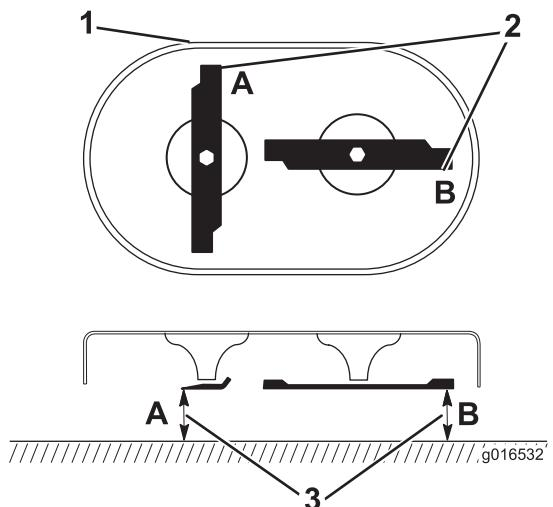

Figure 31
- Rotate the blades until they are positioned as shown in Figure 31.